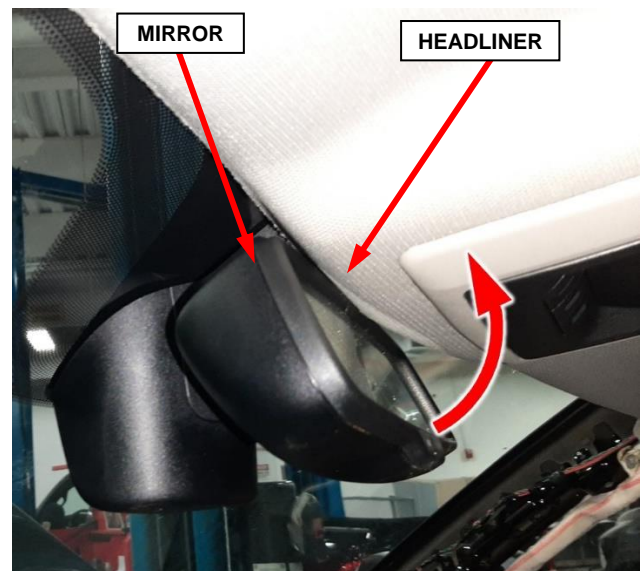

Figure 15 – Rearview Mirror
23. Tilt the rear view mirror up to allow clearance for lowering the headliner (Figure 15).
39. Tilt the rear view mirror down to allow it to support the headliner (Figure 15).